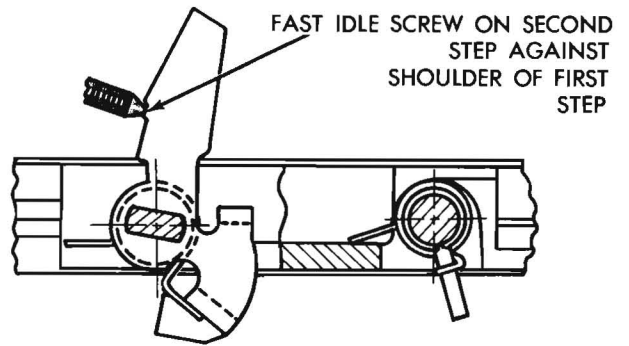

Figure 29. Fast-Idle Speed Cam Position
- (1) With engine off and transmission in "PARK" or "NEUTRAL" position, open the throttle slightly.
- (2) Close the choke valve until the fast-idle screw can be positioned on the second step of fast-idle cam against shoulder of first step. (See figure 29.)
- (3) Start the engine and determine stabilized speed. Rotate the fast-idle speed screw in or out to secure the specified speed. (Refer to specifications.)
- (4) Stopping the engine between adjustments is not necessary. However, reposition the fast-idle speed screw on the cam after each speed adjustment to provide correct throttle closing torque.